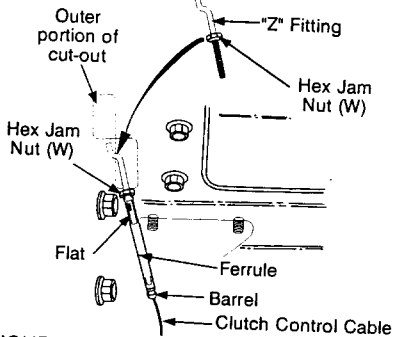

FIGURE 13 - Viewed from the underside of control panel.
- Ensure there is a hex jam nut threaded all the way up the threaded portion of the "Z" fitting, extras are supplied in the screw pack. See Figure 13.